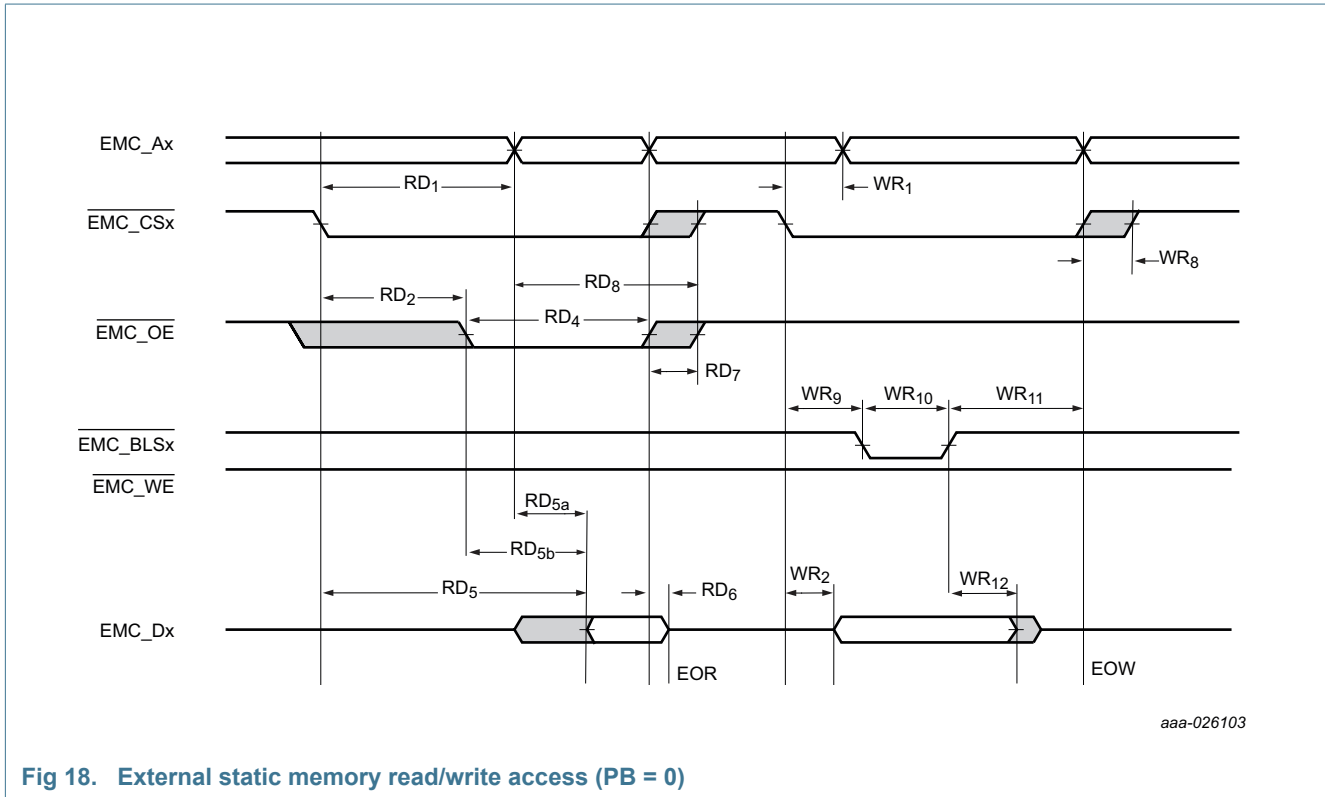

Fig 18. External static memory read/write access (PB = 0)
- [1] Parameters are shown as RDn or WDn in Figure 18 as indicated in the Conditions column.
[1] Parameters are shown as RDn or WDn in Figure 18 as indicated in the Conditions column.